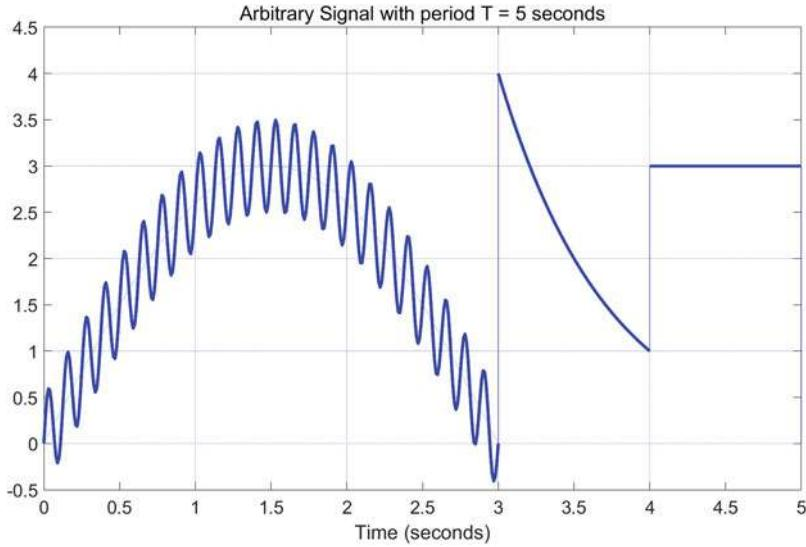

Fig. 10.2: An arbitrary signal given by Eq. 10.10
1. Intel. *Cyclone V Hard Processor System Technical Reference Manual*. [https://www.intel.com/content/dam/www/programmable/us/en/pdfs/literature/hb/cyclone-v/cv\\_5v4.pdf](https://www.intel.com/content/dam/www/programmable/us/en/pdfs/literature/hb/cyclone-v/cv_5v4.pdf). Figure 10-2, Cortex-A9 MPU Subsystem Block Diagram, page 10-3, Accessed 24 Jun 2022
Let us show how this works with the following fairly complicated arbitrary piecewise waveform that has a period of  $T = 5$  seconds. The waveform has three segments given by the following function and is shown in Fig. 10.2.